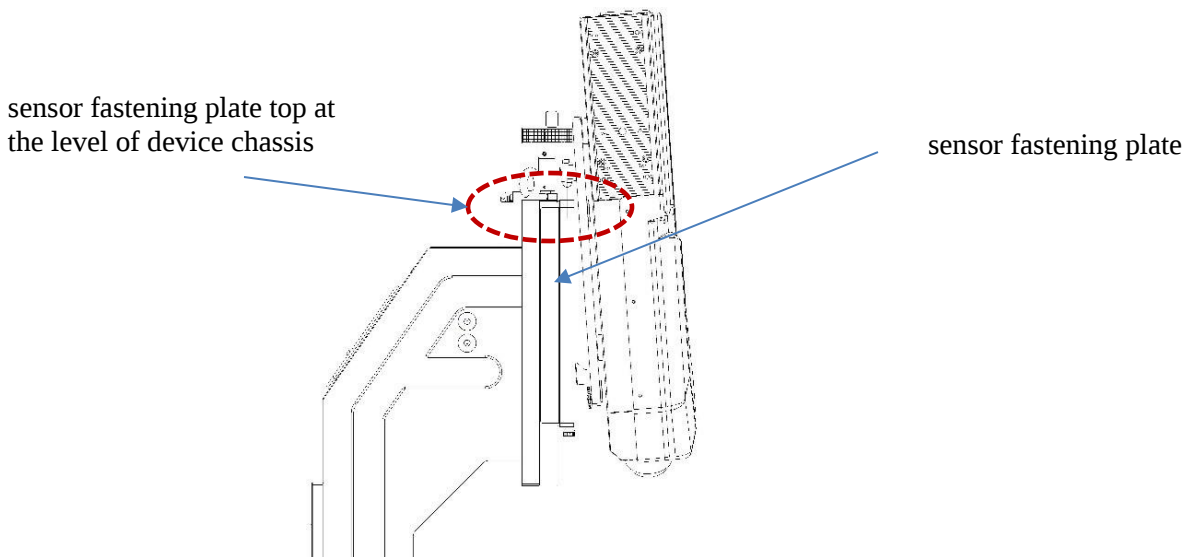

Figure 11 Lifting the Sensor in Place — 2 (sensor fastening plate top at the level of device chassis)
19. Ensure that the spherical guide pins in sensor back plate enter the conical cavities at the upper part of the Z-axis mechanism. (See Figure 11.)